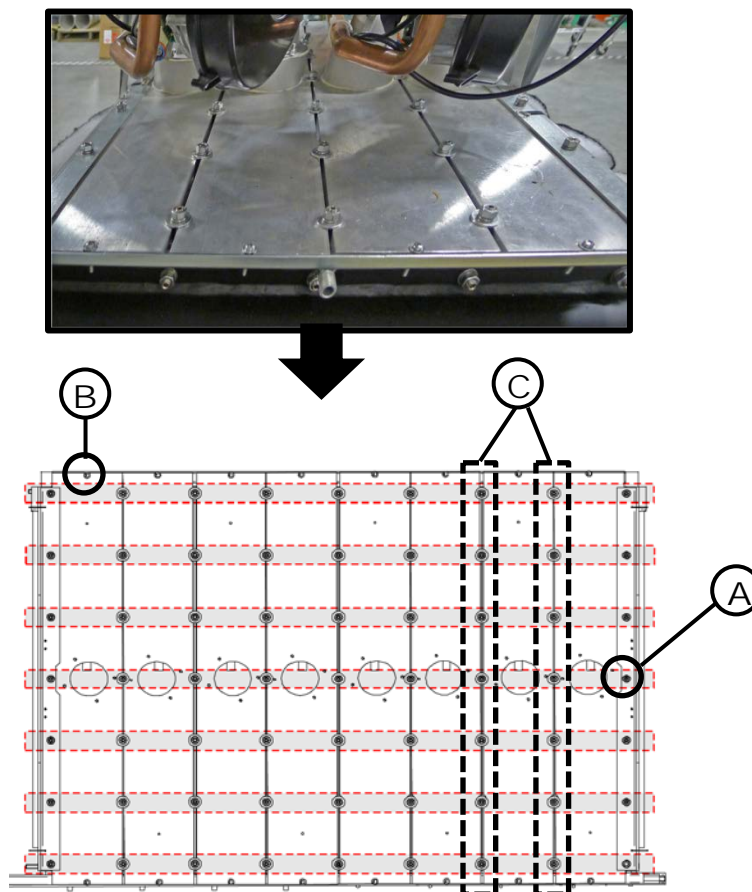

Figure 6: Removing the Burner Module Plate Covers
- a) **All Modules:** Use a 13mm wrench to remove all “A” and “C” nuts (surrounded by horizontal dotted lines in Figure 6, below). Leave the “B” screws affixed so all burner plates may be lifted together. You must now complete the remainder of the instructions in this section.
- b) **Separate Modules:** Use a 13mm wrench to remove only the “A” and “C” nuts on either side of the module in question (vertical dotted lines in Figure 6), then remove the “B” Phillips screw at the end of the burner module. You can now skip the remaining steps in this section and continue with section 5.2 - Cleaning the Burner Module and Combustion Chamber.